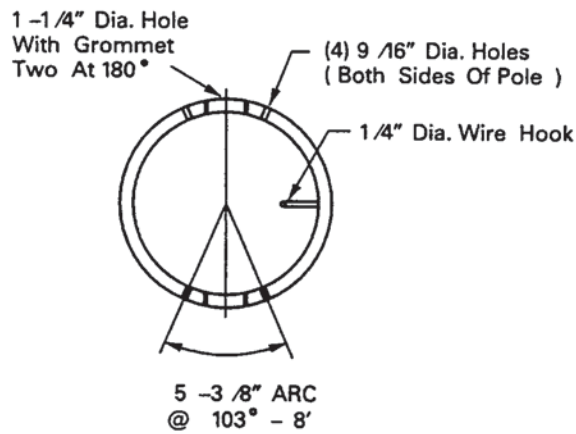

Figure 1 – Pole Top Detail
2. SPECIFICATIONS - All anchor base, aluminum, pendant streetlighting poles shall conform to the following specifications, including Figures 1, 2, 3, 4, and Table 1.